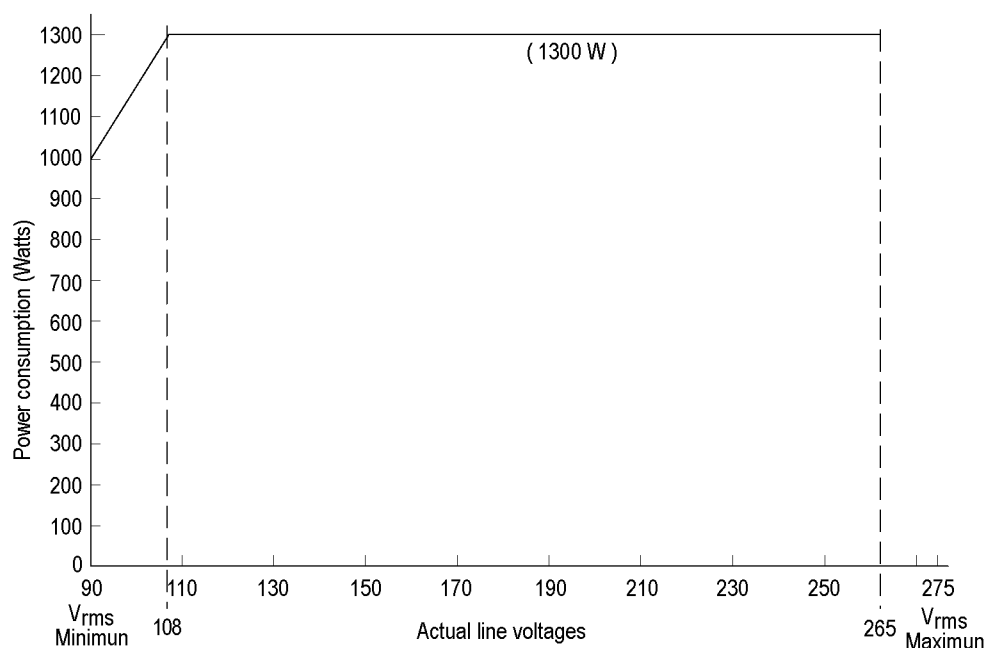

Figure 1: Maximum power allowed to modules at various line voltages for TLA7016 mainframes serial number B020000 and higher
3. Ensure that the total power consumption is less than the limits shown in the following table and illustration. (See Figure 1 on page 5.)